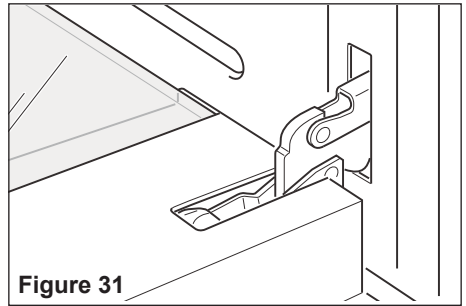

Figure 31
- Open the door to the full extent (fig. 31).